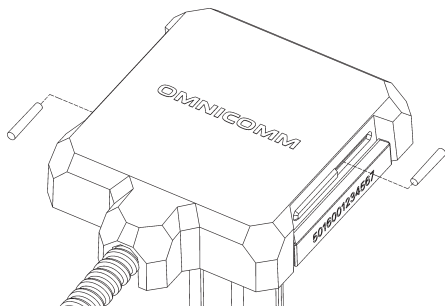

Figure 6. Installation of a casing-seal
- Place the pins and push them in as far as possible (Figure 6)